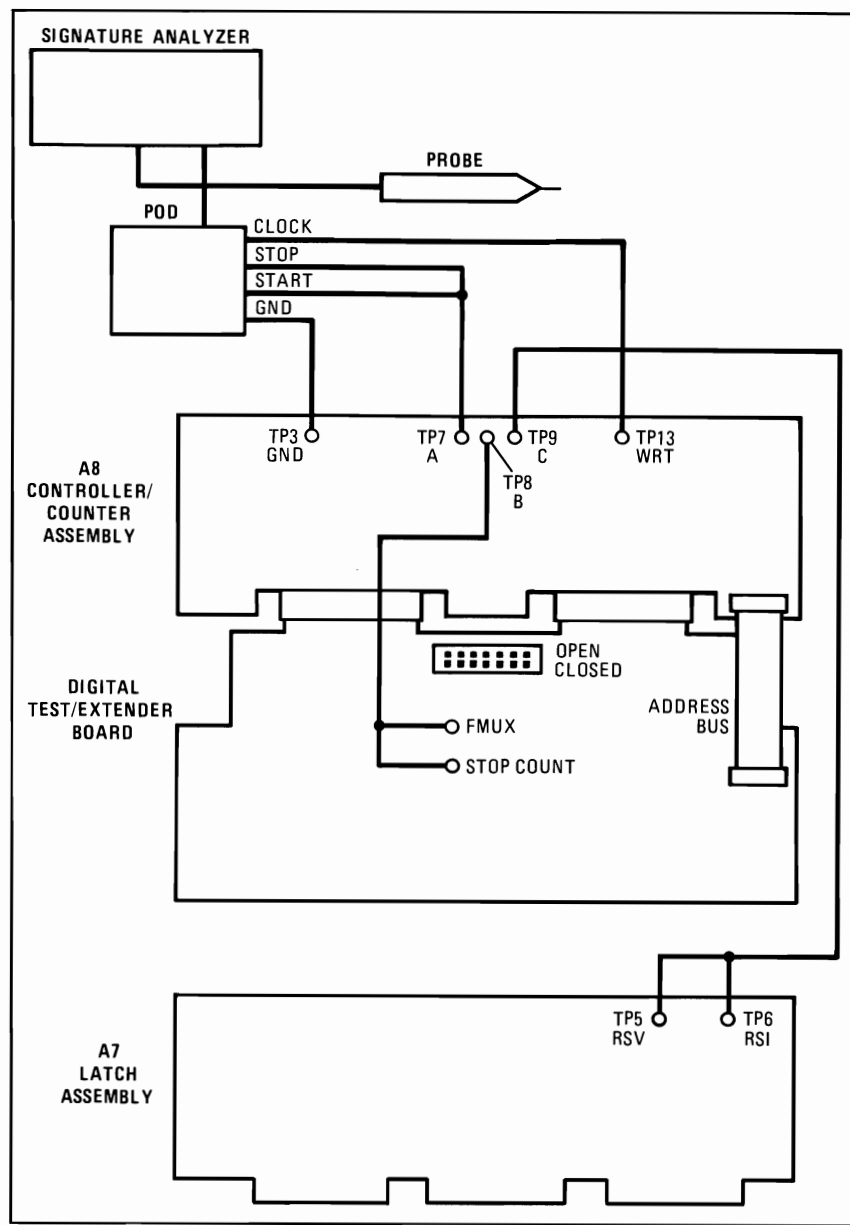

Figure 8-98. Controller/Counter Assembly Troubleshooting Setup
2. Interconnect the Controller/Counter Assembly, the Latch Assembly, the extender board, and the signature analyzer as shown in Figure 8-98. Set the switches on the digital test/extender board to the open position.